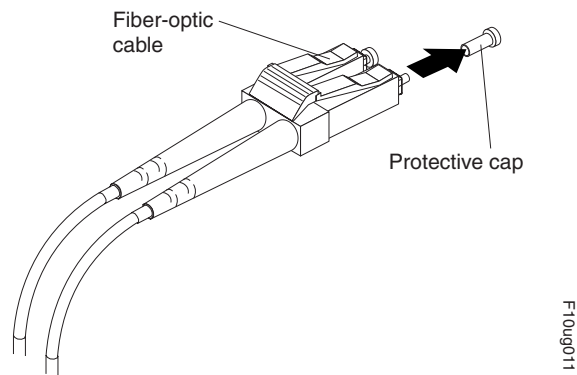

Figure 23. Removing caps from fiber-optic cables
1. Remove the protective cap from the fiber-optic cable. See Figure 23.